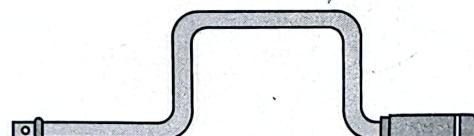

Fig. 1.32. (l) Speed handle.
13. **Torque wrench** : A torque wrench is a tool, which is used to apply a specific amount of torque to a fastener such as a nut, bolt etc. It is usually in the form of a socket wrench with an indicating scale or an internal mechanism which will indicate as by 'clicking', when a specific torque value has been reached during application. [See Fig. 1.32 (m)]